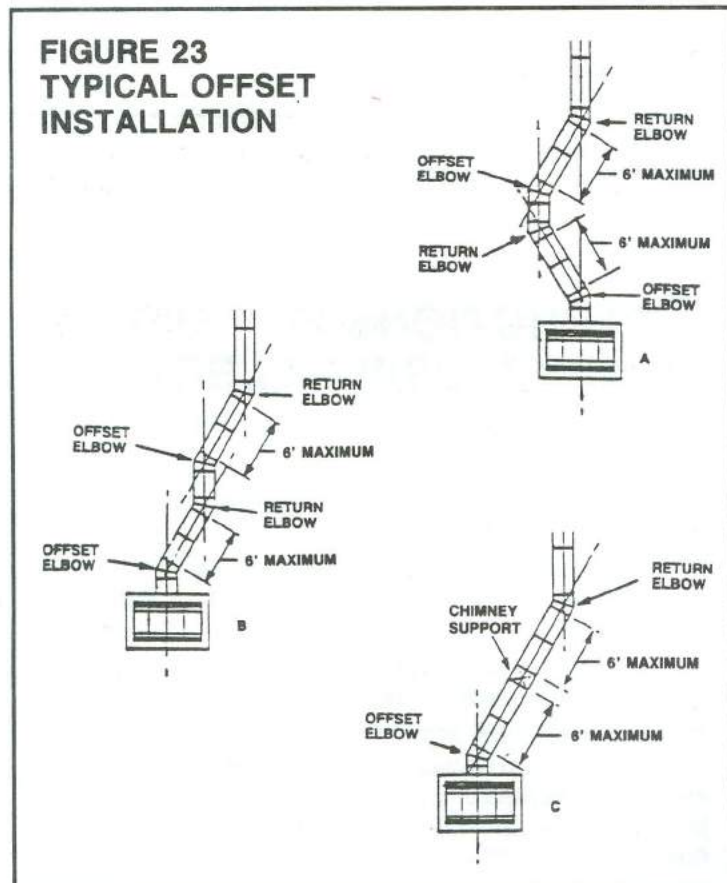

FIGURE 23
3. Maximum length of pipe between supports (return elbow or CPS 12-8DN) is 6' of angled run. Maximum of two 6' angles run sections per chimney system (Figure 23).